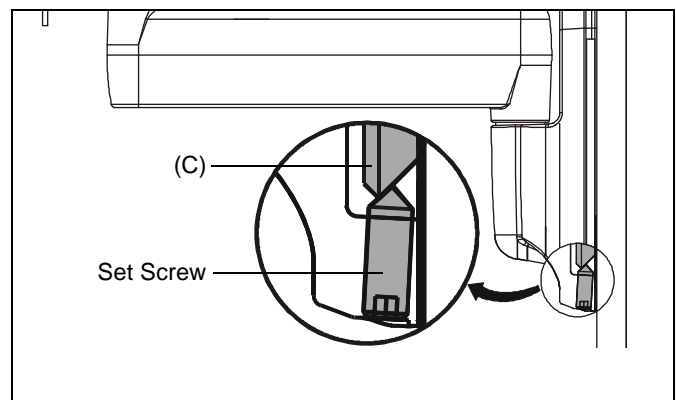

Figure 3
6. Tighten set screw using 5/32" hex key. Ensure set screw engages *back* side of bracket (C) to properly secure mount. (See Figure 3)